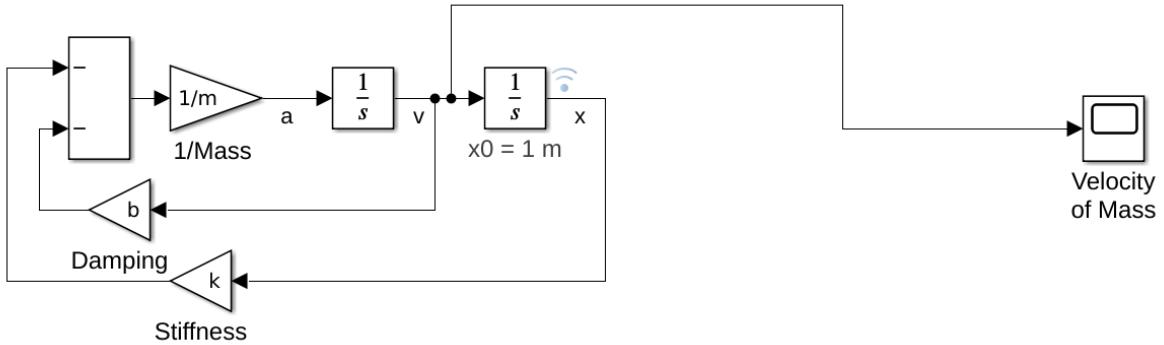

Figure 2: The Simulink model of the mass-spring damper.
1. Rearrange equation (1) so that only the term \ddot{x} is in the left hand side of the equation.
2. Construct a Simulink model of the system as shown in Figure 2 with the following values of parameters $b = 10$, $k = 400$, $m = 20$.